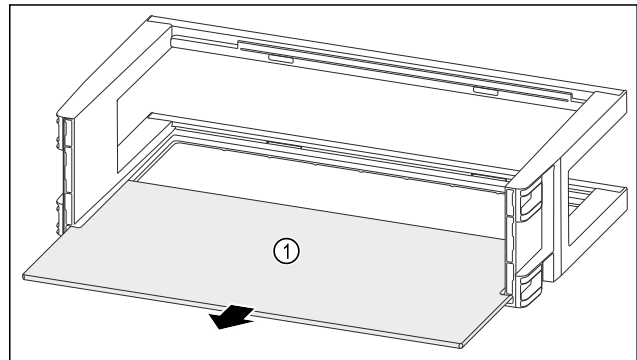

Fig. 117
- Remove the shelf Fig. 117 (1).